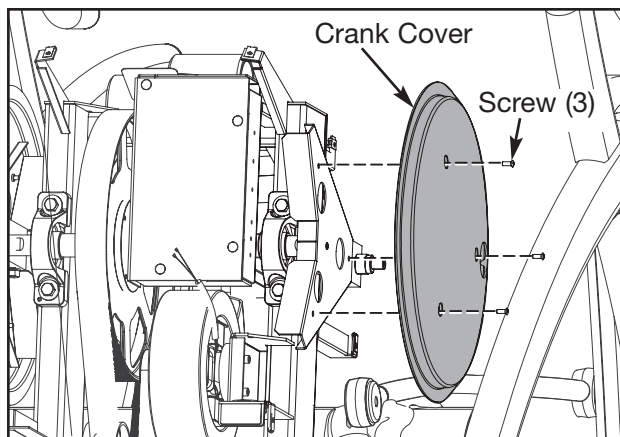

Figure 6
A. Using a Phillips head screwdriver, remove the three screws securing each crank cover in place. See Figure 6.